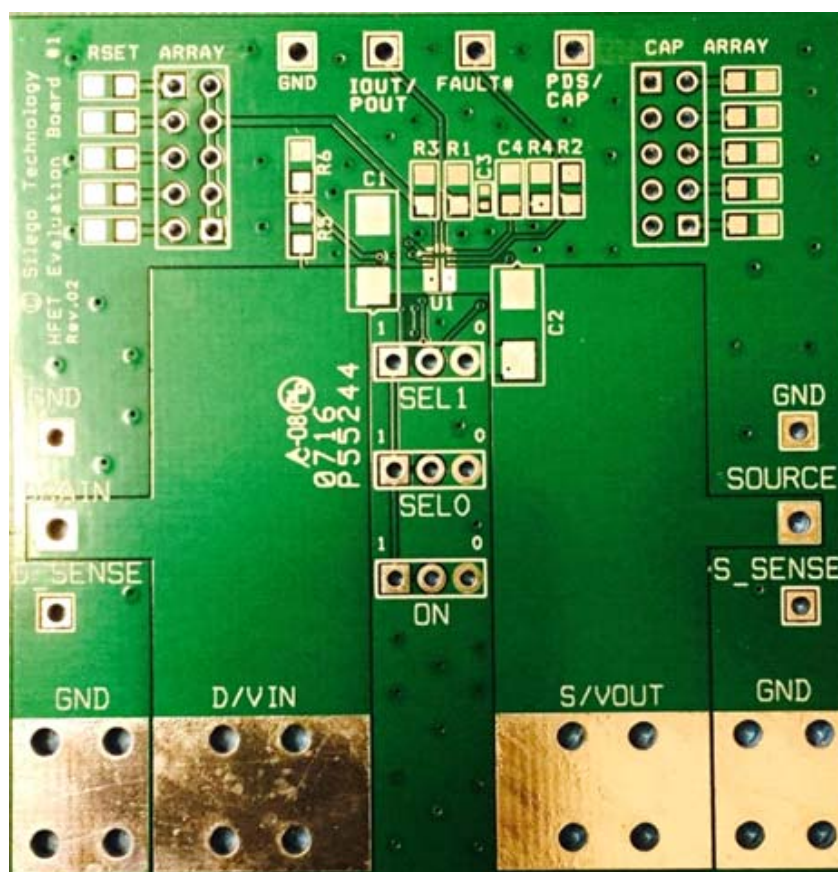

Figure 45. SLG59H1020V Evaluation Board
1. Since the VIN and VOUT pins dissipate most of the heat generated during high-load current operation, it is highly recommended to make power traces as short, direct, and wide as possible. A good practice is to make power traces with absolute minimum widths of 15 mils (0.381 mm) per Ampere. A representative layout, shown in Figure 45, illustrates proper techniques for heat to transfer as efficiently as possible out of the device;
A HFET1 Evaluation Board for SLG59H1020V is designed according to the statements above and is illustrated on Figure 45. Please note that evaluation board has D\_Sense and S\_Sense pads. They cannot carry high currents and dedicated only for  $RDS_{ON}$  evaluation.